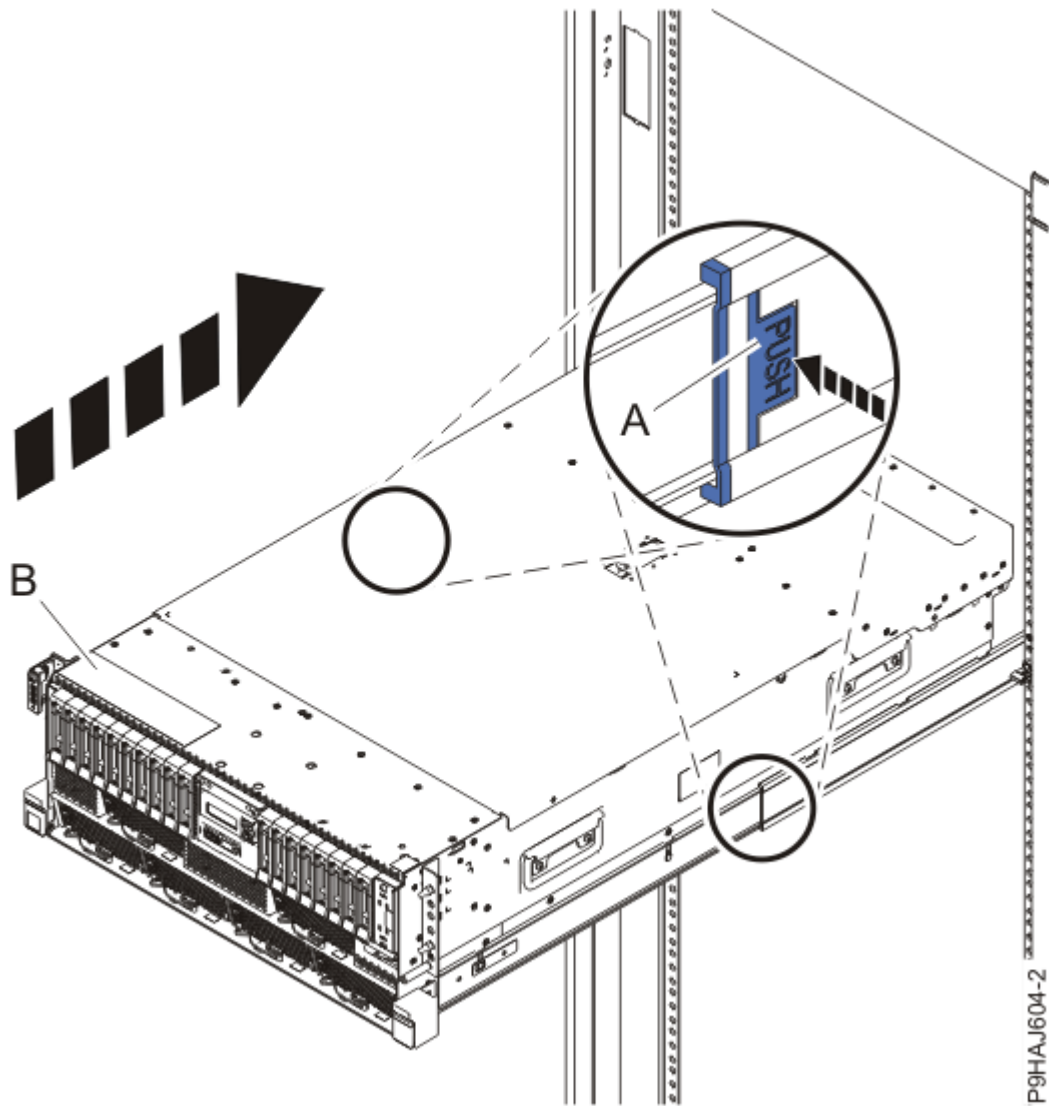

Figure 16. Placing the system into the operating position
3. For a rack-mounted system, unlock the blue rail safety latches (**A**) as shown in Figure 16 on page 19 by pushing them inward.